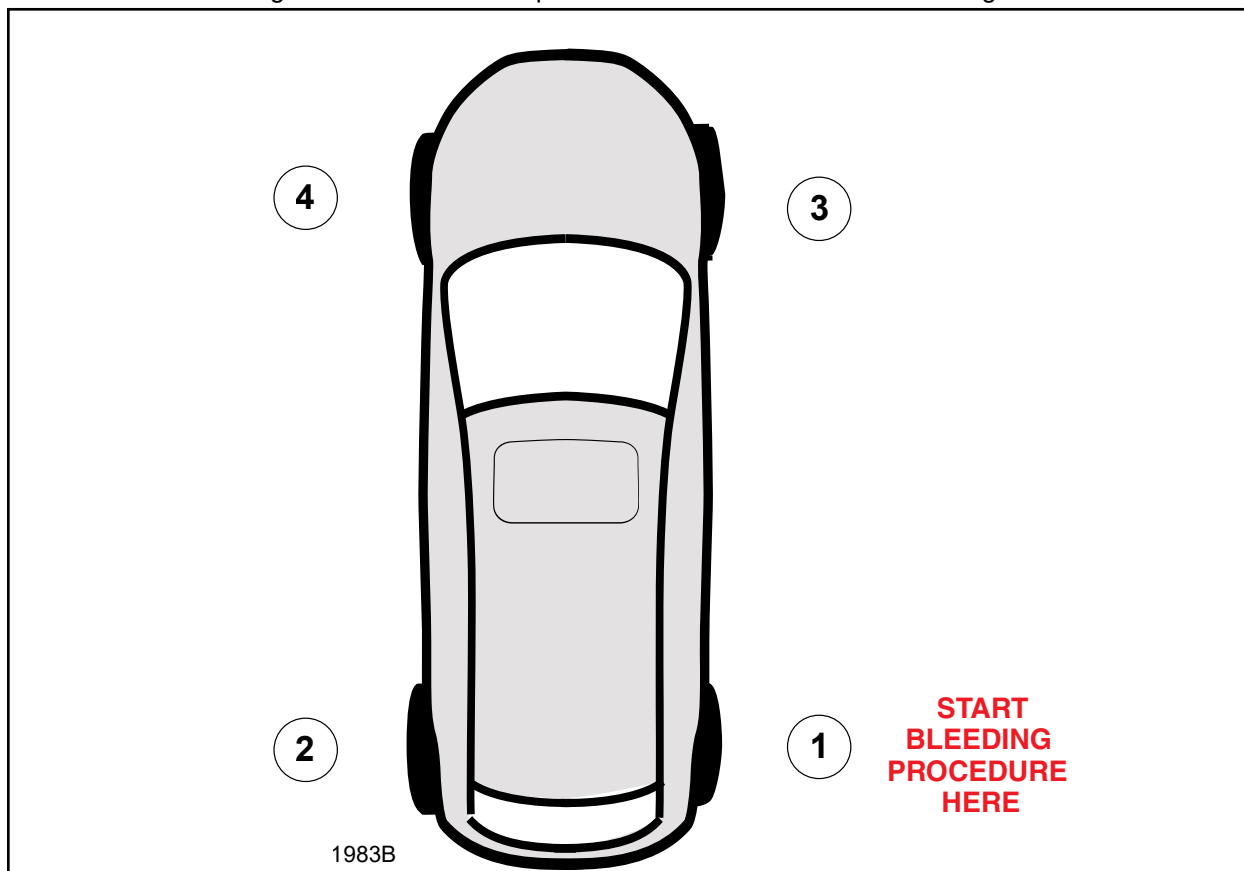

FIGURE 2
- While bleeding the brakes in this step follow in the bleed order shown in Figure 2.